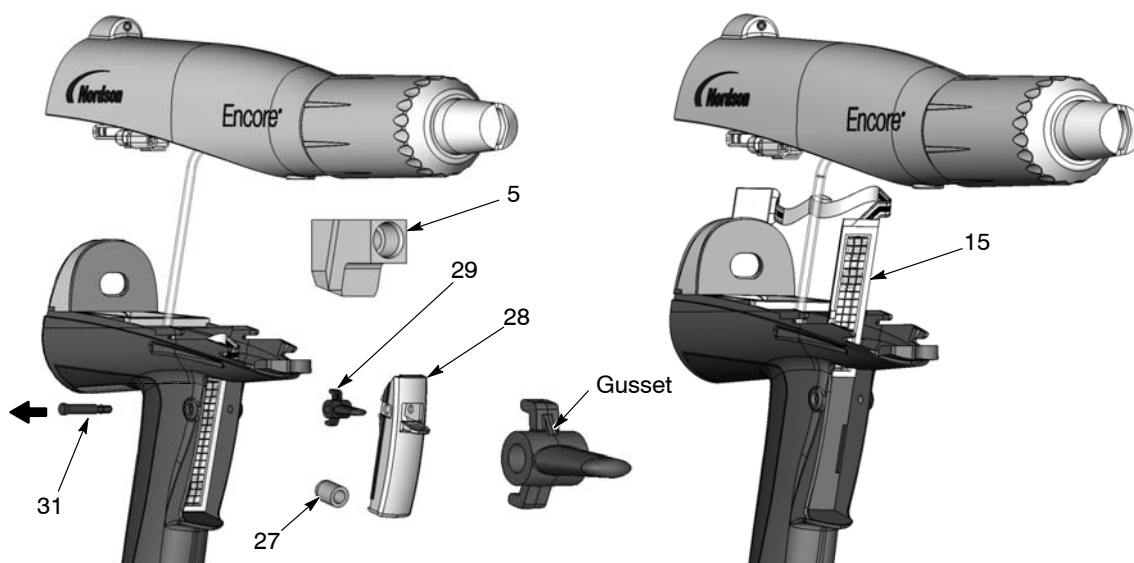

Figure 6-8 Trigger Switch Replacement
1. See Figure 6-8. Orient the new switch (15) with the grid facing the front of the gun, then carefully feed the square, bottom end of the switch through the slot in the handle.
4. Install the purge trigger (29) into the spray trigger (28) with the gusset oriented upward as shown. **Do not install the purge trigger upside down.**
5. Position the triggers in the handle and hold them in place while pressing the axle (31) through the handle and triggers until the head of the axle is flush with the handle. The axle will snap into place when properly installed.